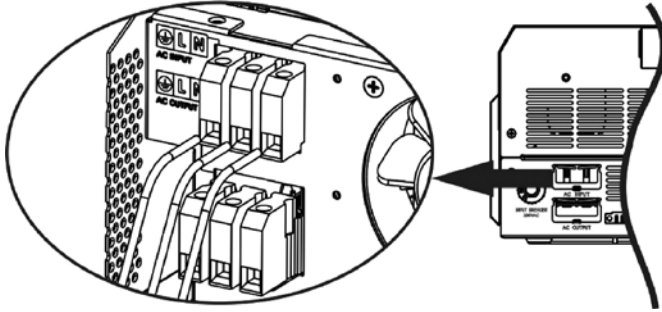
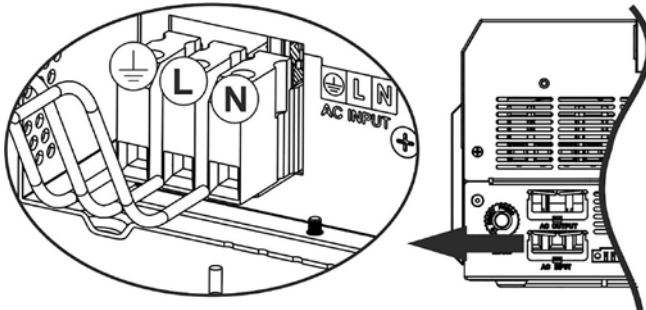

Figure 4.7 - 3.6 kW AC input wires
Figure 4.8 - 6 kW Twin AC input wires
3. Insert AC input wires according to polarities indicated on terminal block (Figure 4.7 and Figure 4.8) and tighten the terminal screws. Be sure to connect PE protective conductor  first.